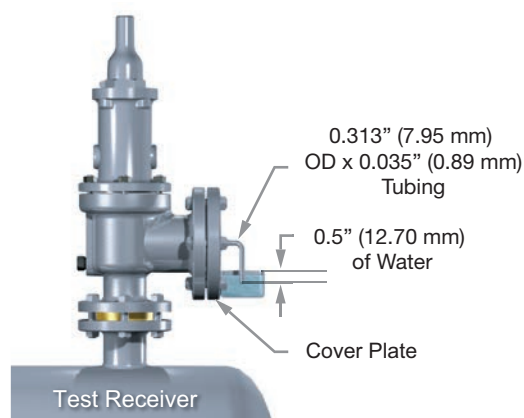

Figure 37: Typical Test Arrangement
General Information: Set up a typical test arrangement for determining seat tightness for SRVs on air or gas service (in accordance with ANSI B147.1/API RP 527) (see Figure 37).
1. With the valve mounted vertically (see Figure 37), determine the leakage rate, in bubbles per minute, with pressure at the SRV inlet held at 90% of the set pressure immediately after popping. For valves set at 50 psig (3.45 barg) or below, hold pressure at 5 psig (0.34 barg) below set point. The test pressure shall be applied for a minimum of 1 minute for valves on inlet sizes through 2" (50.8 mm); 2 minutes for sizes 2.5" (63.5 mm), 3" (76.2 mm) and 4" (101.6 mm), and 5 minutes for the 6" (152.4 mm), 8" (203.2 mm), 10" (254 mm) and 12" (304.8 mm)